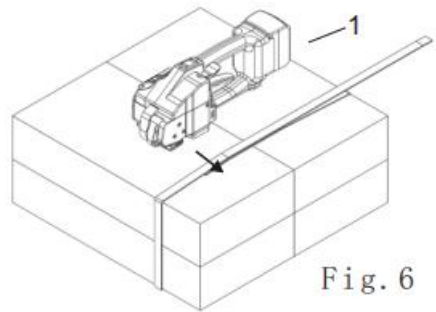

Fig. 6
-Wrap the PP/PET belt around the bundle from top to bottom, holding the bandage strap so that the lower end of the tie belt is about 20cm away from the hand. (shown in Figure 6)